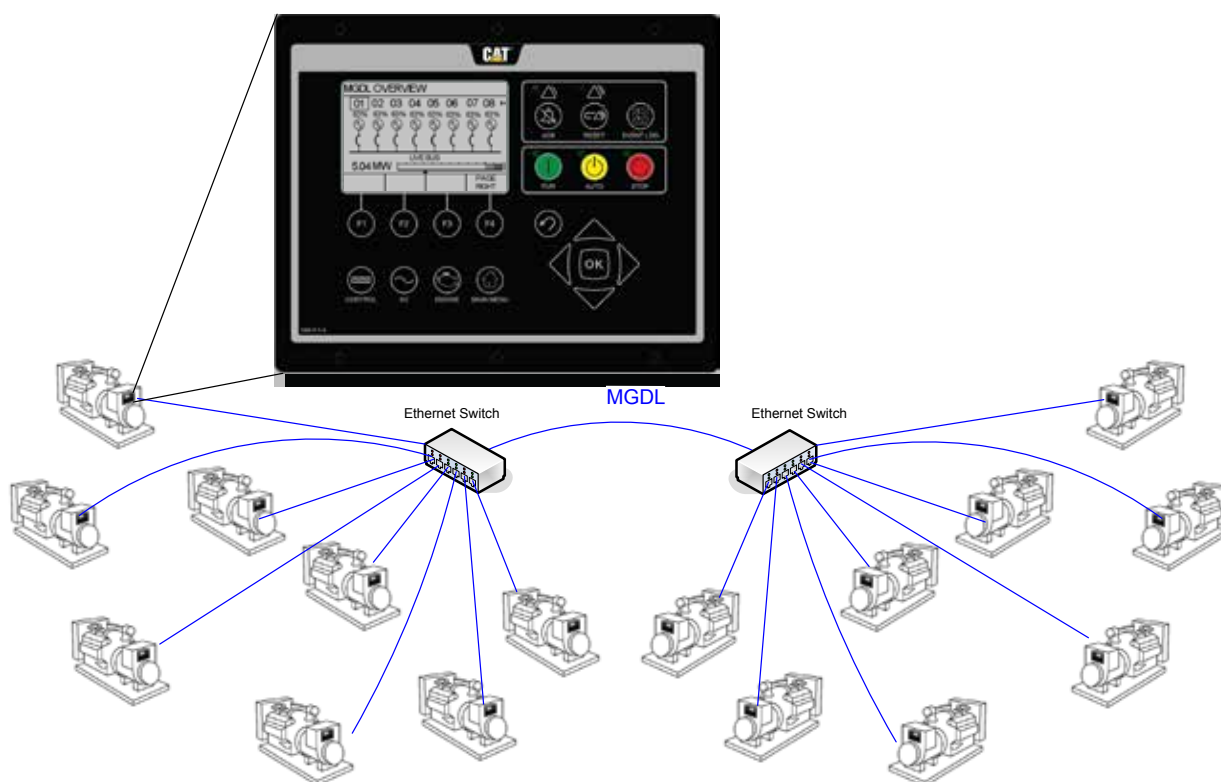

Figure 37.1 – MGDL
The MGDL feature requires EMCP 4.4 controllers with at least v4.3 PROD software installed. MGDL capability does NOT exist in EMCP 4.4 controller software versions prior to v4.3 PROD. Up to sixteen (16) EMCP 4.4 controllers can be networked together in a single system via MGDL. MGDL provides a view of the entire system as well as visibility to all other units in the system from a single EMCP 4.4 display (Figure 37.1).